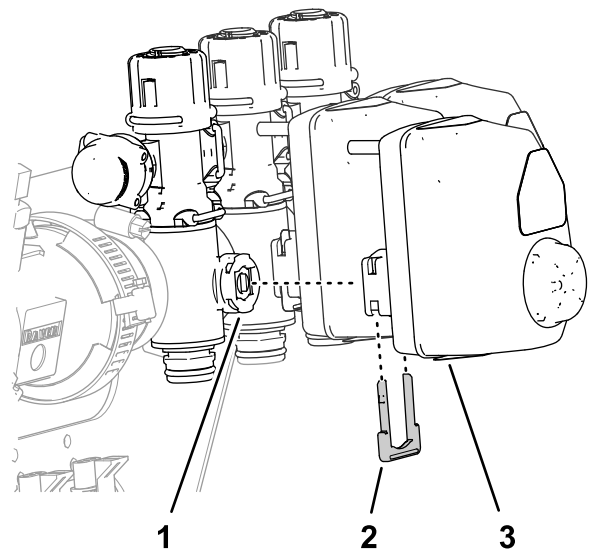

Figure 64
2. Remove the valve actuators from the left, center, and right section valves (Figure 64).
1. Remove the 3 retainers that secure the 3 valve actuators to the left, center, and right section valves (Figure 64).
10. Assemble the 3 valve actuators onto the left, center, and right section valves (Figure 64) with the retainers that you removed in step 1.